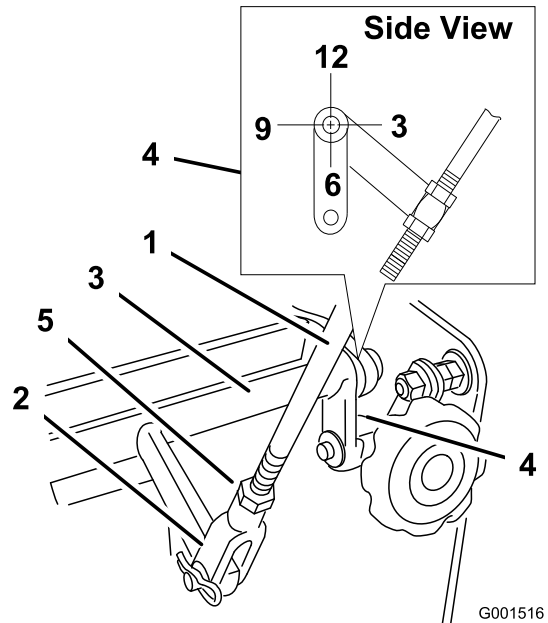

Figure 29
4. Check the orientation of the tabs on the ends of the speed control crank. Ensure these tabs are pointing straight down at the 6 o'clock position approximately (Figure 29).
5. Adjust the threaded yoke at the bottom of the speed control linkage until the tabs are at the 6 o'clock position (Figure 29).